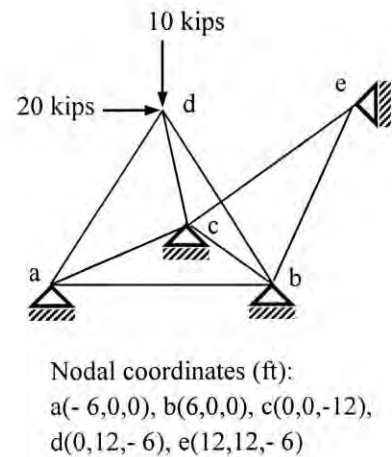

Figure 4
4. Calculate the joint deflections and member forces of the space truss shown in **Figure 4** [Given: $S_x = \text{constant} = 1000 \text{ k/ft}$].